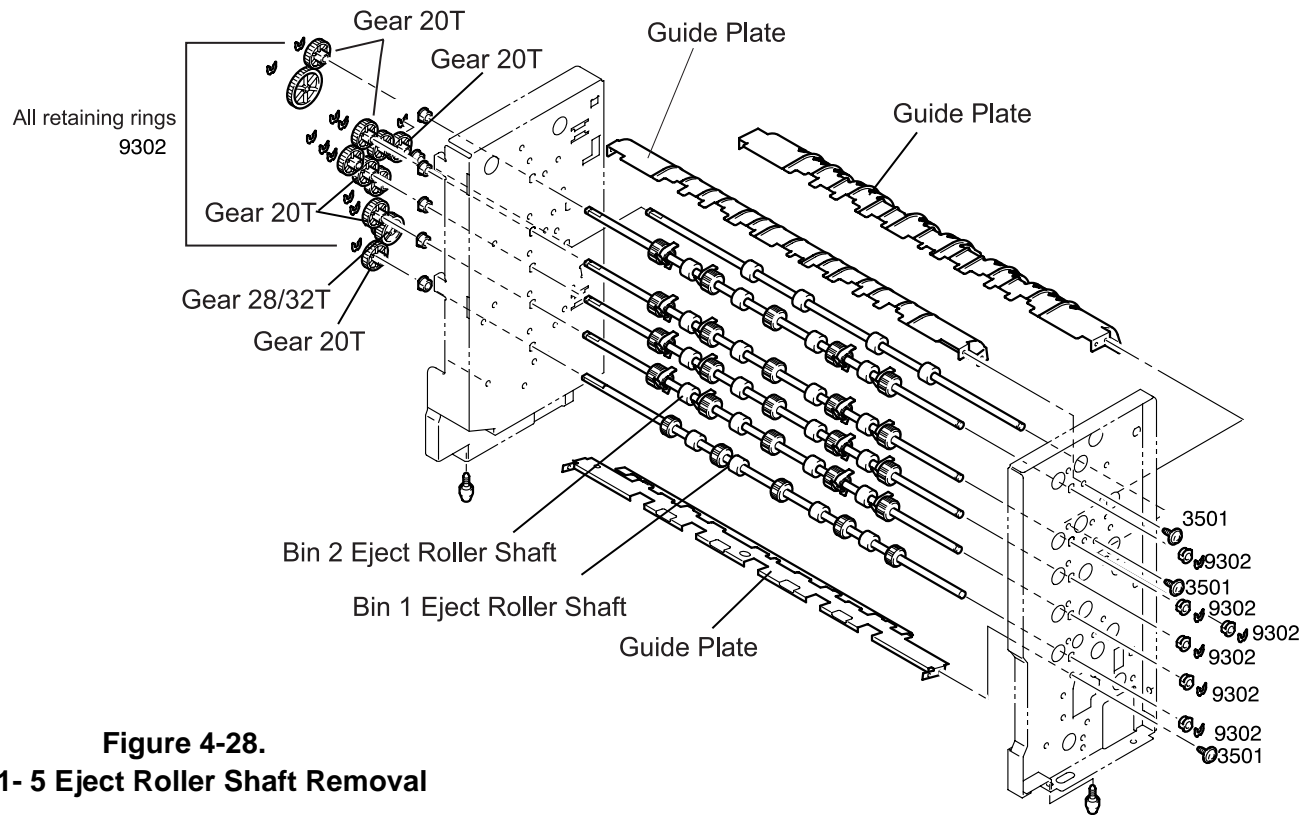

Figure 4-28.
4. Remove four screws (3501) securing the guide plate located under the Bin 1 Eject Roller Shaft to the Unit Frame, and remove the guide plate. (See Figure 4-28.)
5. Remove the retaining ring (9302) fixing the gear 20T to the Bin 1 Eject Roller Shaft, and remove the gear. (See Figure 4-28.)
6. Remove two retaining rings (9302) fixing the bushings for the Bin 1 Eject Roller Shaft to the Unit Frame, and remove the bushings. (See Figure 4-28.)
4. Remove four screws (4025) securing the guide plate to the Unit Frame and remove the guide plate. (See Figure 4-28.)
5. Remove the retaining ring (9302) fixing the gear 20T to the Bin 1 Eject Roller Shaft and remove the gear. (See Figure 4-28.)
6. Remove the retaining ring (9302) securing the gear 28/32T to the Unit Frame shaft and remove the gear. (See Figure 4-28.)
7. Remove the retaining ring (9302) fixing the gear 20T to the Bin 2 Eject Roller Shaft and remove the gear. (See Figure 4-28.)
8. Remove the retaining ring (9302) fixing the bushings for the Bin 2 Eject Roller Shaft to the Unit Frame and remove the bushings. (See Figure 4-28.)
4. Remove the retaining ring (9302) fixing the gear 20T to Eject Roller Shaft and remove the gear. (See Figure 4-28.)
5. Remove four screws (3501) securing the guide plate located under the Eject Roller Shaft to the Unit Frame and remove the guide plate. (See Figure 4-28.)
6. Remove the retaining ring (9302) fixing the bushings for the Eject Roller Shaft to the Unit Frame and remove the bushings. (See Figure 4-28.)